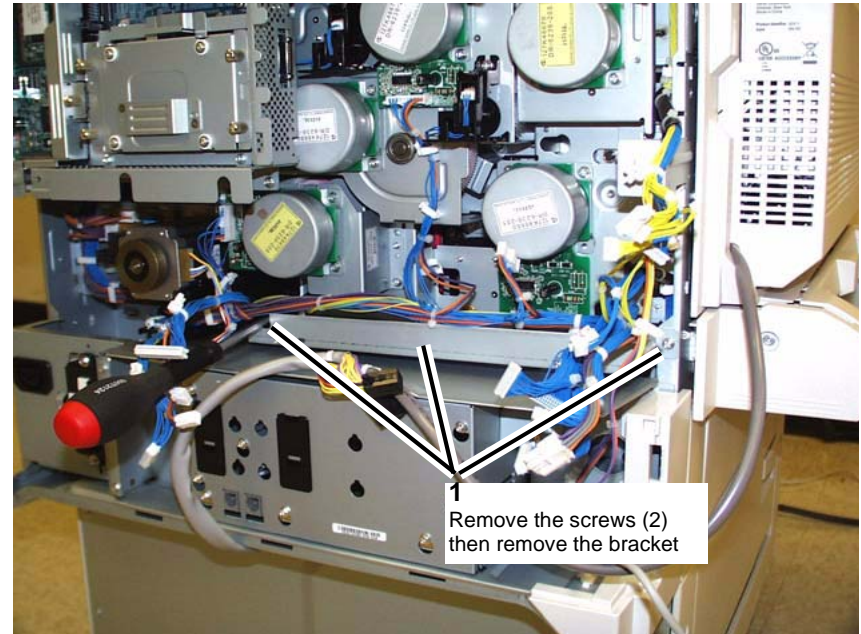

Figure 4 Removing the lower bracket
7. Remove the lower support bracket. (Figure 4)